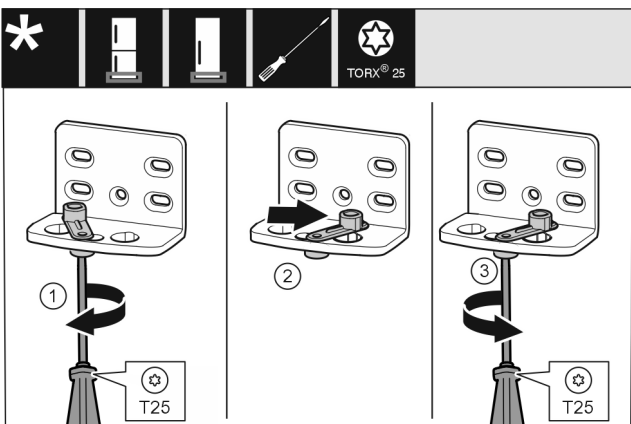

Fig. 11
- Loosen the screw using a T25 screwdriver. Fig. 11 (1)
- Lift the door closing aid and turn it 90° to the right in the hole. Fig. 11 (2)
- Tighten the screw using a T25 screwdriver. Fig. 11 (3)